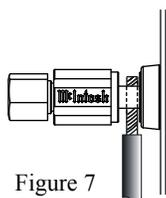

Figure 7
8. Connect the Loudspeaker hookup cables to the MC312 COM (Negative) Output Terminal and Positive Output Terminal indentified as 2Ω (ohms), 4Ω (ohms) or 8Ω (ohms) connection to match the impedance of the Loudspeaker, being careful to observe the correct polarities. Insert the spade lug connector or prepared section of the cable end into the terminal side access hole, and tighten the terminal cap until the cable is firmly clamped into the terminals so the lugs or wire cannot slip out. Refer to figures 7 and 8.
impedance of the Loudspeaker, being careful to observe the correct polarities. Insert the spade lug connector or prepared section of the cable end into the terminal side access hole, and tighten the terminal cap until the cable is firmly clamped into the terminals so the lugs or wire cannot slip out. Refer to figures 7 and 8.